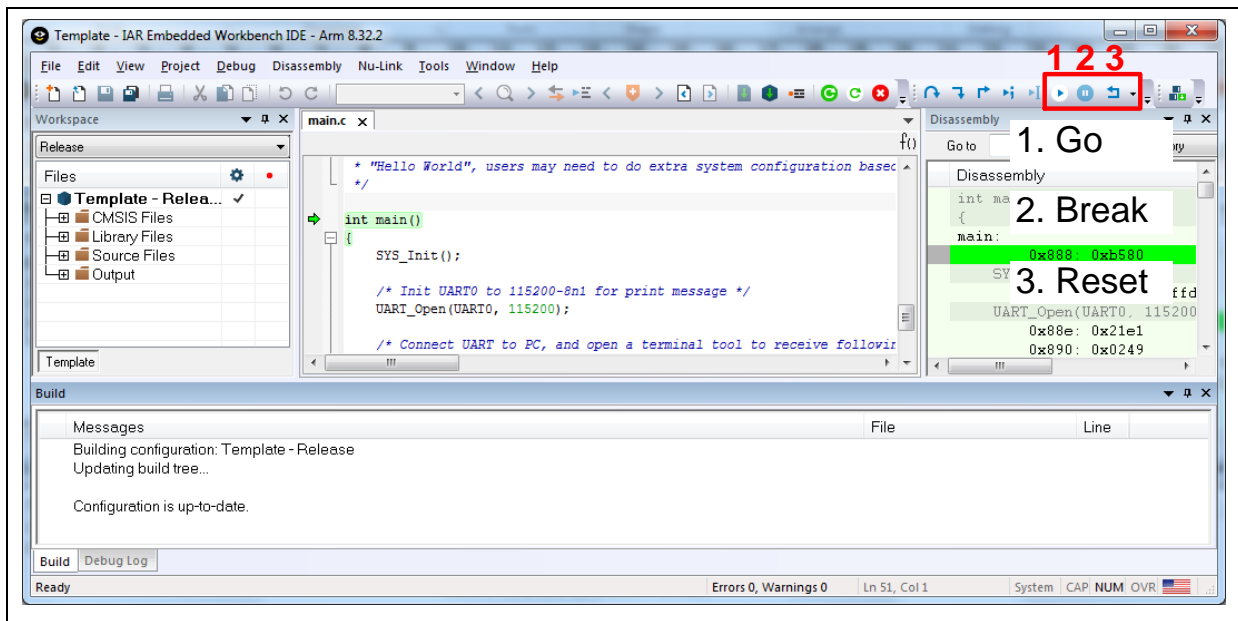
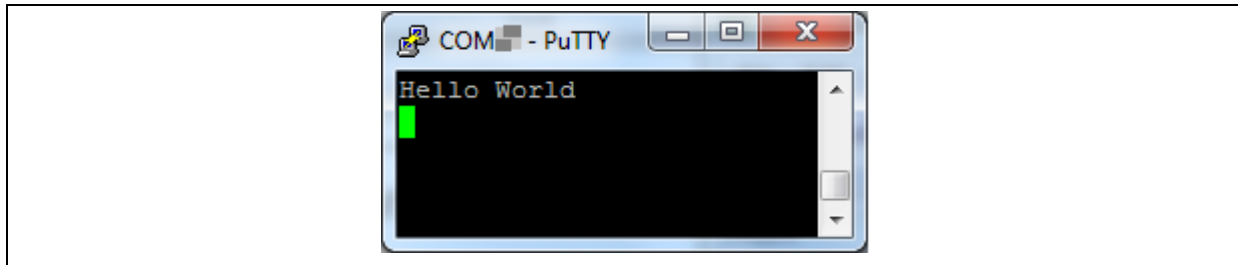

Figure 3-17 IAR EWARM Debug Mode
Figure 3-18 Debug Message on Serial Port Terminal Windows
4. Figure 3-17 shows the debug mode under IAR EWARN. Click “Go” and the debug message will be printed out as shown in Figure 3-18. User can debug the project under debug mode by checking source code, assembly language, peripherals’ registers, and setting breakpoint, step run, value monitor, etc.